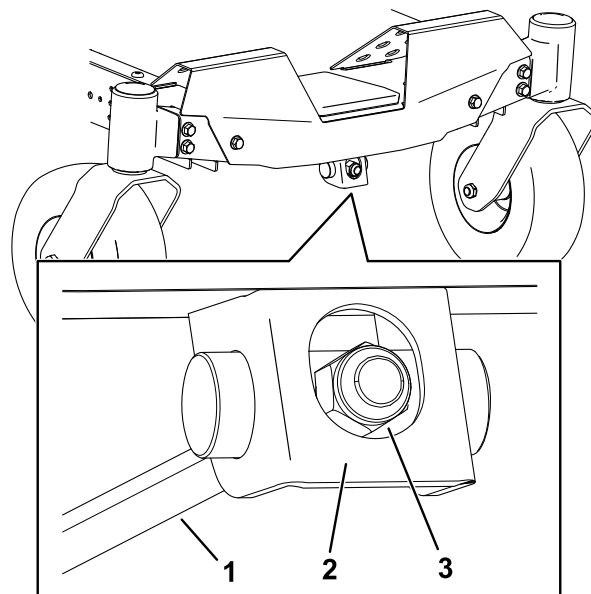

**Figure 63**
7. Rotate the height-of-cut plate to a different hole so that it supports the weight of the mower deck after you install the plate (Figure 63).
8. Install the washer and hairpin cotter (Figure 63).